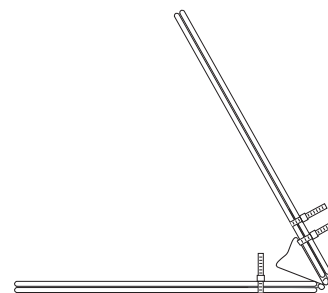

Figure 3.
4. Insert a third cable tie through the binder clip and around the two tongue depressors, pulling the cable tie as tightly as possible. See Figure 3 on next page.